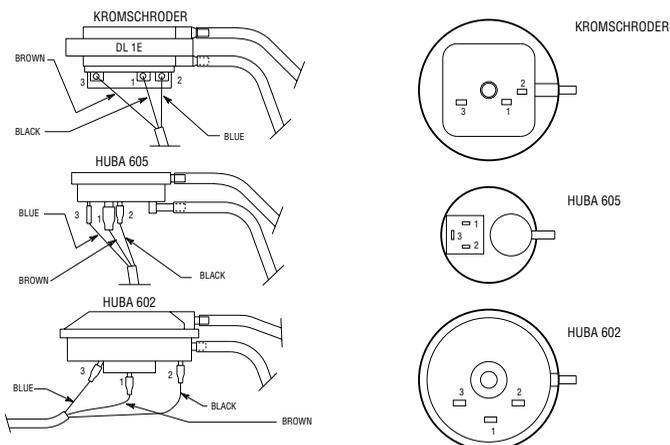

Fig. 46
- Re-assemble in reverse order (refer to fig. 46 for wiring).